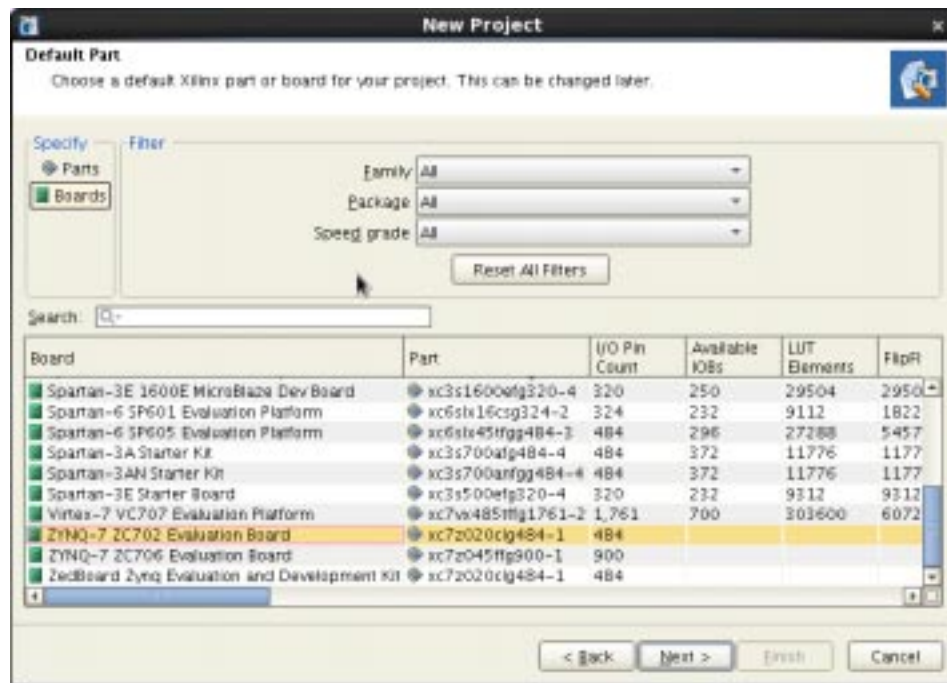

Figure 5: Choose Board.
3.7 **Select Boards** and **scroll down to the list to select the ZYNQ-7 ZC702** Evaluation board as shown in Figure 5.